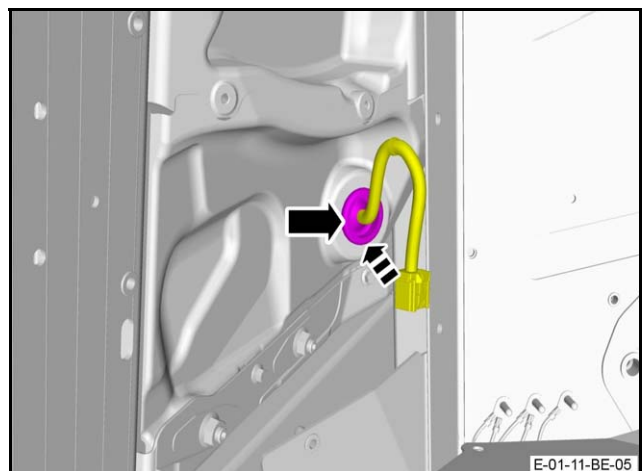

Figure 6
20. Release the grommet from the shedder panel and put the main body wiring harness through the hole (Refer to Figure 6).